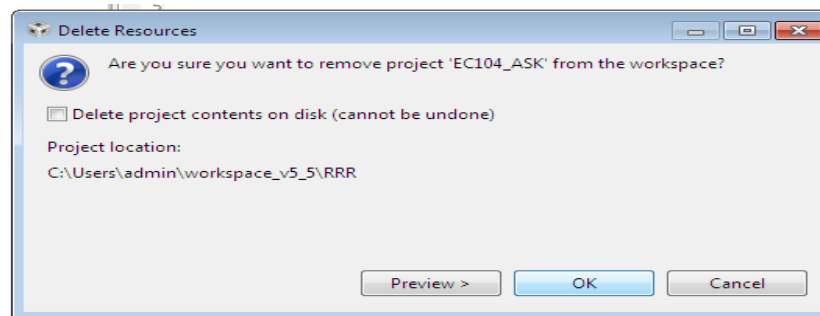

Fig.2. Deletion of previous project.
5.If any previous project(e.g EC104_ASK) can be deleted in the Project Explorer by right click \leftarrow on the previous project & click on delete \leftarrow , then give "Ok" on pop-up menu (**Note:** Do not select the option **Delete the Project contents on disk**. See Fig.2. It will delete someone project files)